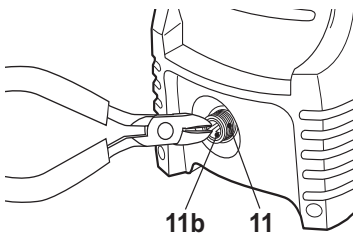

Fig. 21
- > Remove the water hose connector (12) from the water inlet (11).
- > Use a pair of pliers to remove the filter (11b) from the water inlet (Fig. 21).